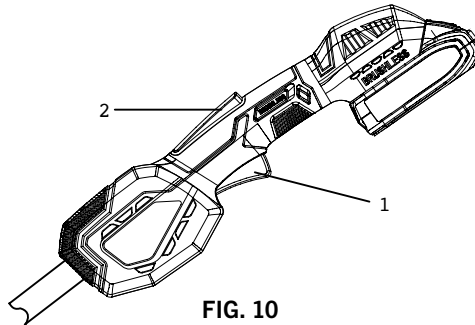

FIG. 10
1. Press the lock-off switch (2) Fig. 10.
2. While continuing to press the lock-off switch, squeeze the variable speed trigger switch (1).